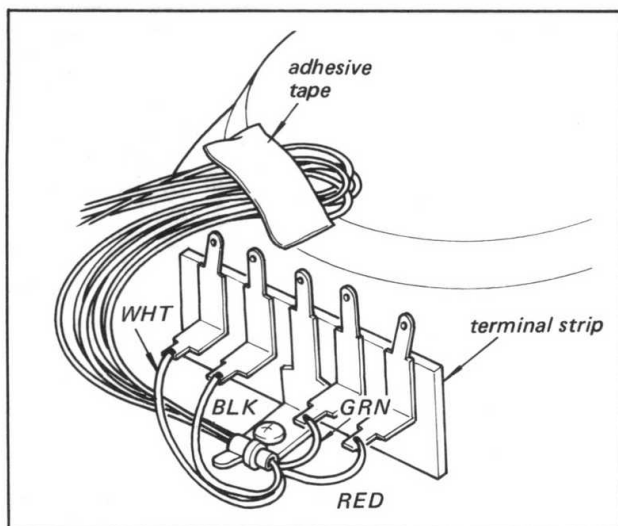

Fig. 1-5. Lead wire connection
1. Unsolder the four lead wires from the terminal strip shown in Fig. 1-5.
2. Carefully unstick the tape holding the lead wires to the turntable base as shown in Fig. 1-5.
4. When reinstalling the tonearm, refer to the lead wire connection shown in Fig. 1-5.